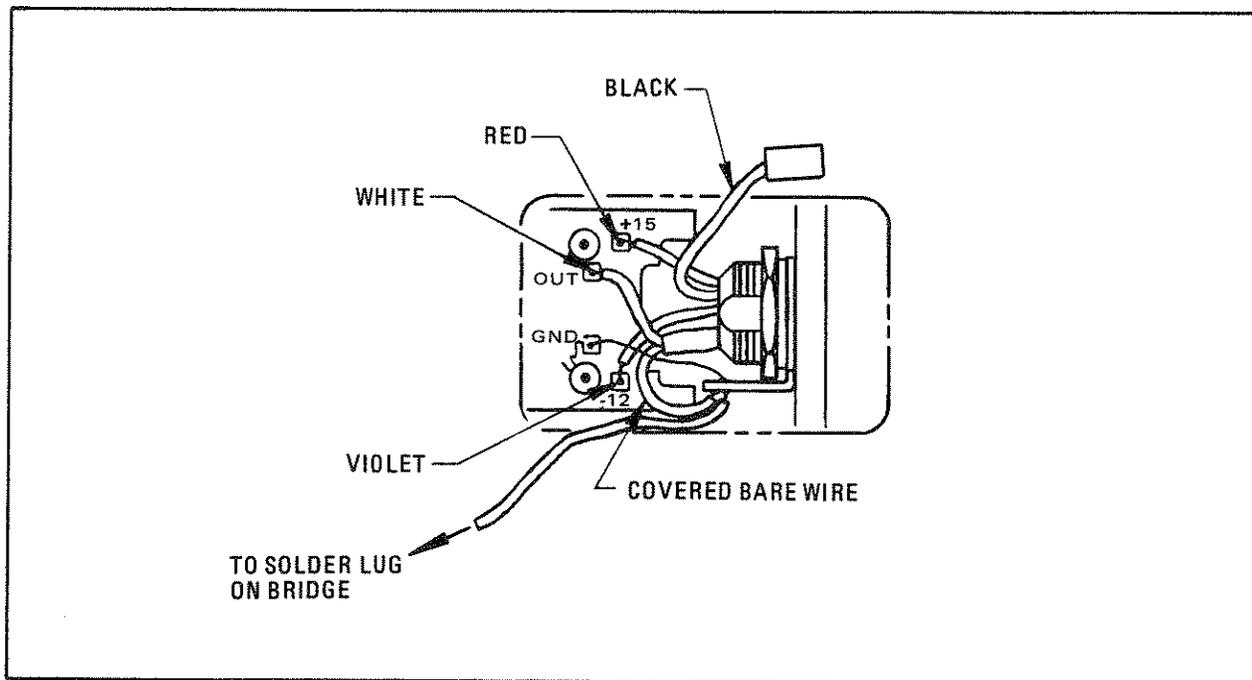

Figure 8-5. Cable to Preamplifier Wiring Diagram
4. To rewire the power cable, refer to Figure 8-5, Cable to Preamplifier Wiring Diagram.